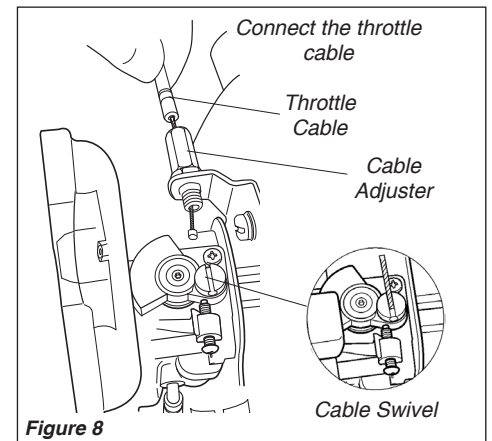

Figure 8
2. Slip the throttle cable into the cable adjuster and hook the bullet end of the cable onto the swivel. See Figure 8.